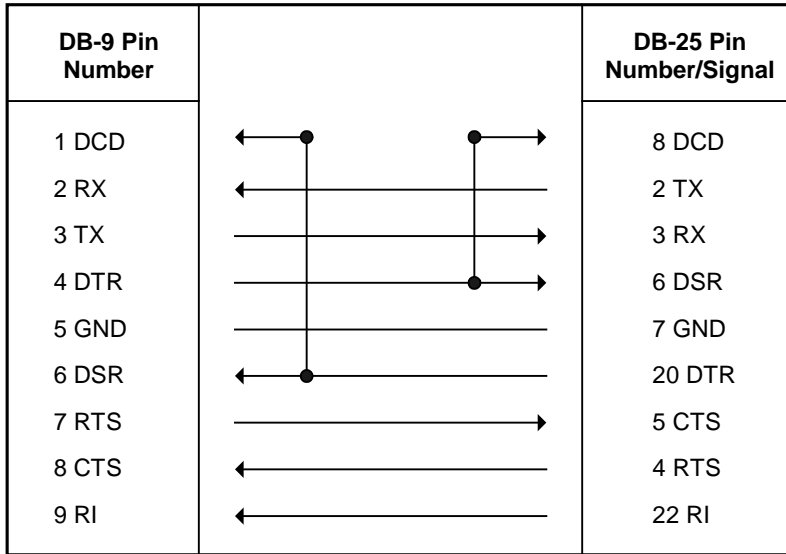

Figure 2-2: DB-9 to DB-25 Terminal Cable
Figure 2-2, Figure 2-3, and Figure 2-4 show cable diagrams for three common configurations. The cable shown in Figure 2-3 may be used to connect modems to the iNS/3000. Modems should be configured to switch their carrier detect signal (CD) on and off in response to making and breaking telephone connections. This insures that the iNS/3000 terminates user sessions when they disconnect. The cable shown in Figure 2-2 can be used to connect a DB-9 terminal (or standard PC COM) port directly to the iNS/3000. The DB-9 to DB-9 terminal cable diagrammed in Figure 2-4 is a standard NULL modem connector, readily available in retail outlets. DB-9 to DB-9 modem cables (not diagrammed) require no special pinouts and use a straight-through cable. A 3-wire cable is shown in Figure 2-5.